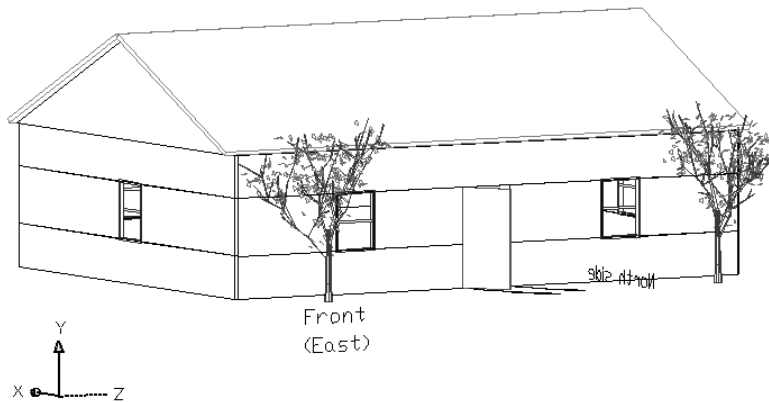

Figure 22-14: The final view of the house.
13. Choose View ⇨ Named Views on the Named Views tab and click New. In the New View dialog box, type the name of the view, **walk up**. Click OK. Click OK again to return to your drawing. It should look like Figure 22-14.